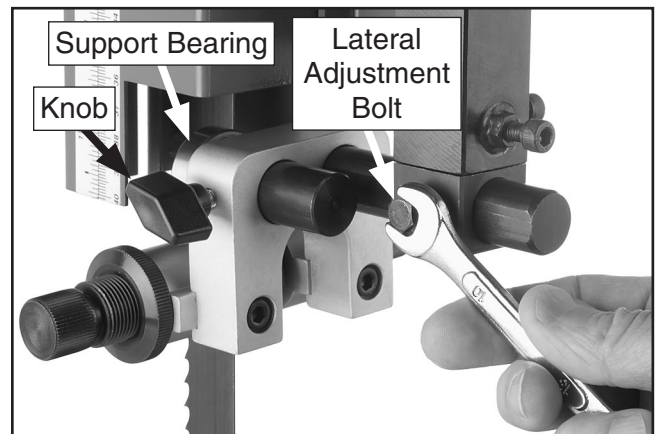
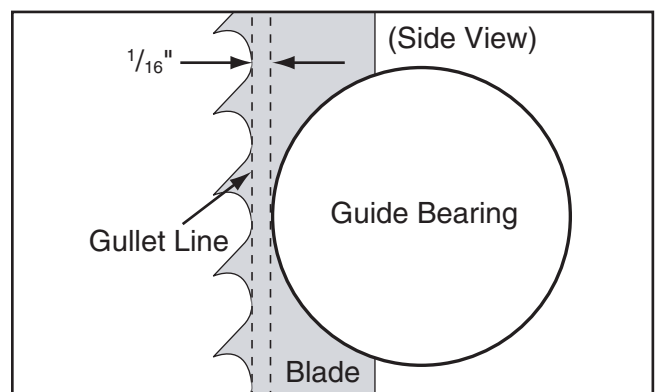

Figure 7. Loosening lateral adjustment bolt.
Figure 8. Correct guide bearing alignment against the blade.
- Loosen the lateral adjustment rod bolt on the guide block, then loosen the knob that secures the support bearing (see **Figure 7**).
- Slide the guide block shaft forward so the support bearing (**Figure 7**) slightly overlaps the back of the blade and the ceramic bearings are $\frac{1}{16}$ " behind the blade gullets, as illustrated in **Figure 8**.
10. Tighten the lateral adjustment rod bolt (see **Figure 7**).
12. Adjust the guide block as needed until the ceramic bearings are $\frac{1}{16}$ " behind the blade gullets, as illustrated in **Figure 8** on **Page 2**.